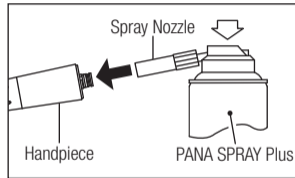
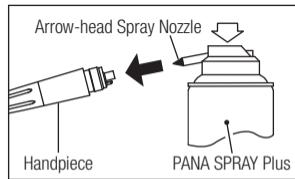

Fig. 10
Fig. 11
- 3) Insert the Spray Nozzle in rear of the handpiece. Hold the handpiece and spray for approximately 2-3 seconds. Apply lubricant until it expels from the handpiece head for at least 2 seconds. (Fig. 10)
- 2) Mount the arrow-head spray nozzle tip into the spray can port. (Fig. 11)
- 3) Lubricate handpiece by using NSK PANA SPRAY Plus (Fig. 10, Fig. 11) or NSK automatic handpiece cleaning and lubrication system.